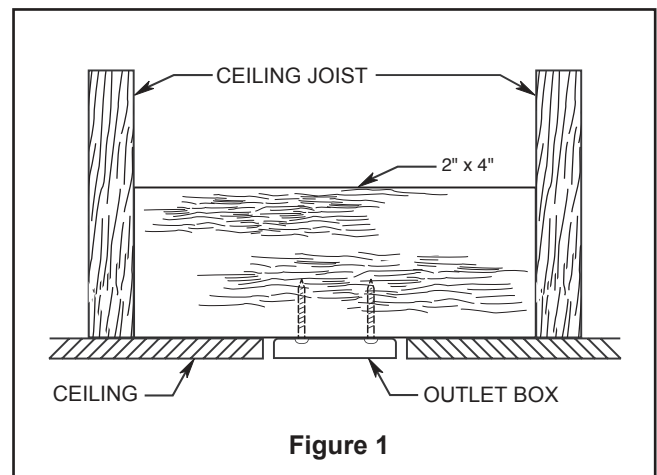
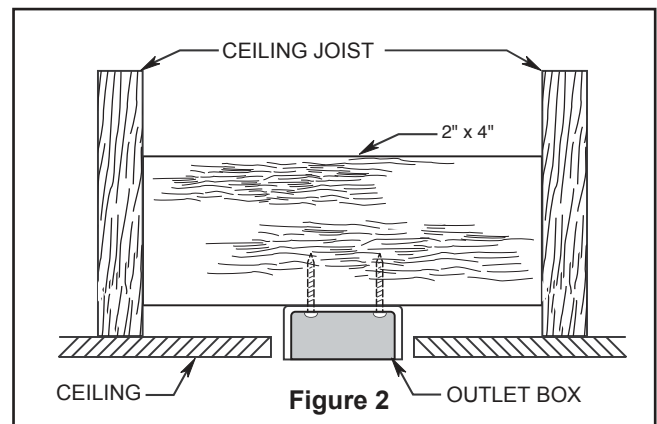
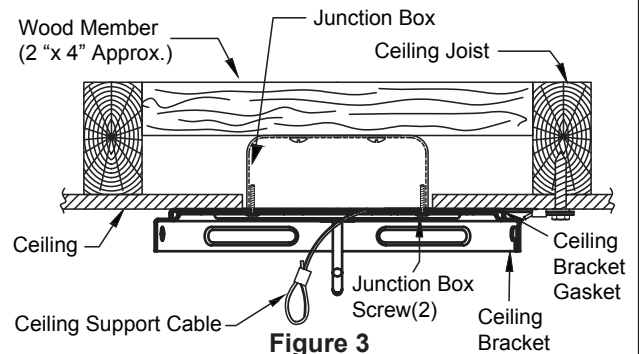

Figure 1
Figure 2
Figure 3
Your new ceiling fan will require a grounded electrical supply line of 120 volts AC, 60 HZ, 15 Amp Circuit. Electrical code requires use of a fan-rated outlet box to support the extra weight and motion associated with a ceiling fan. A fan-rated box will be labeled as such and typically supports up to a 70lb ceiling fan. Fan-Rated Outlet Boxes vary in ratings and design. Ensure the ratings of your ceiling fan outlet box meet the requirements for the ceiling fan being installed. Figure 1, Figure 2 and Figure 3 depicts different structural configurations that may be used for mounting the outlet box.
Low profile box (Figure 1)
Deep box (Figure 2)
Deep box with brace (Figure 3)
1. Using the 3/8 " x 2 " lag bolt and flat washer, attach safety cable to ceiling joist or wood structural member. The lag bolt will pass through the flat washer, safety cable loop, and into the building structure (Figure 3). You will first drill a 1/4 " pilot hole into the building structure to prevent splitting or cracking.
2. The ceiling support cable need to through the center hole of ceiling bracket when mounting. Using the two #8-32 screws and washers securely attach the ceiling bracket gasket and ceiling bracket to ceiling junction box as shown. (Figure 3)
3. Remove one of the three screws in the light kit assembly and retain the screw for Step 5. Slightly loosen the remaining two screws. (Figure 3)
- 3. To make fan operational, install 23A/12V battery (included) in hand-held remote transmitter, with fan power off. Then follow the remote code setting process. (If not used for long periods of time, remove battery to prevent damage to transmitter). Store the remote away from excessive heat or humidity. (Figure 3)